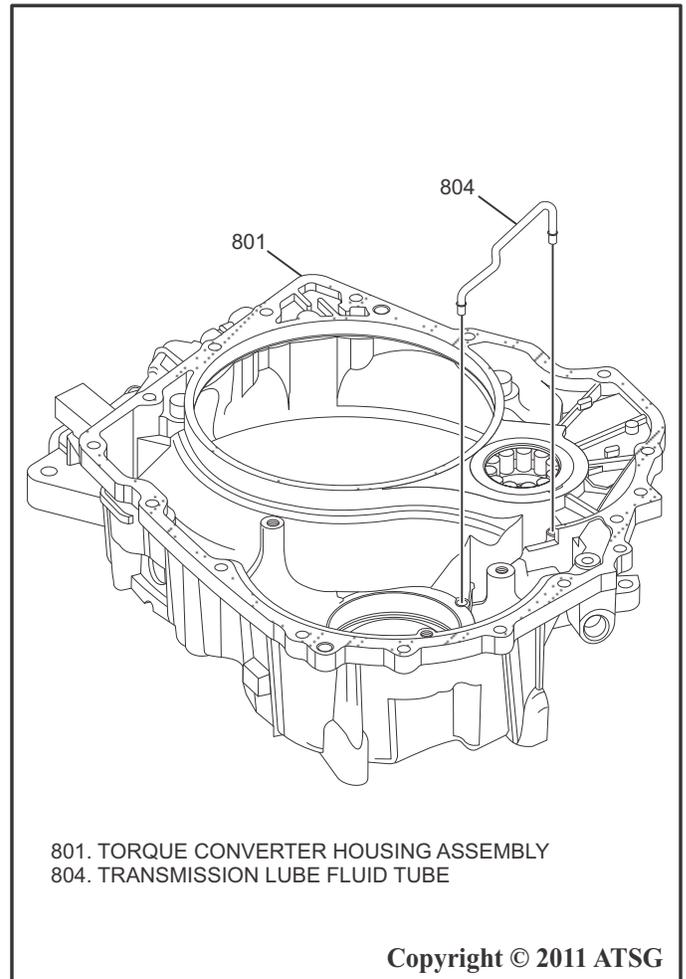

Figure 65
5. Carefully remove the transmission fluid lube tube as shown in Figure 65.